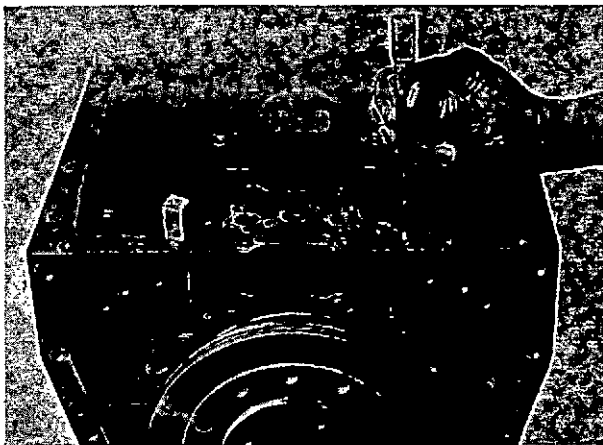

Fig. 5 Rear main bearing sealing plugs
- (e) Fit wooden sealing plugs to the rear main bearing cap. Coat each plug with 'Wellseal', drive it fully home (fig. 5), and cut off the surplus flush with the crankcase.